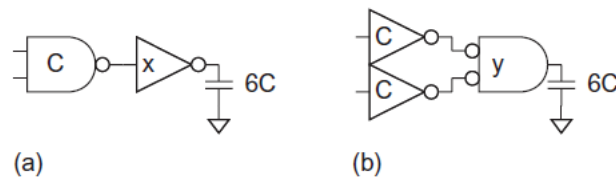

Figure 3B
- 3B** Consider the two designs of a 2-input AND gate shown in Figure 3B (a) and (b). Justify which of the two circuits will be faster with a calculation of the path effort, delay, and input capacitances x and y to achieve this delay. 4 3 4 5